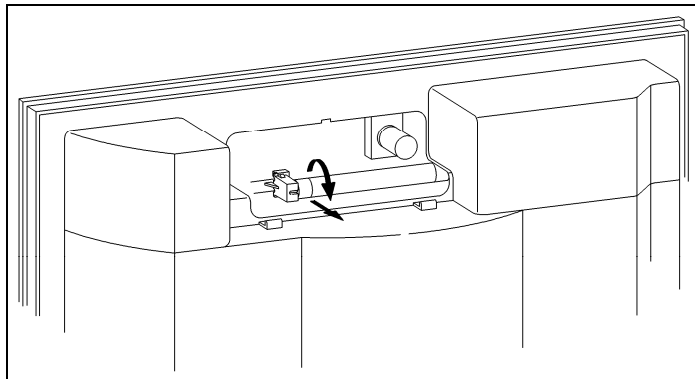

Figure 5-11: Light Tube Removal (CVA 610)
3. Turn the light tube 90° towards you to remove. See Figure 5-11.